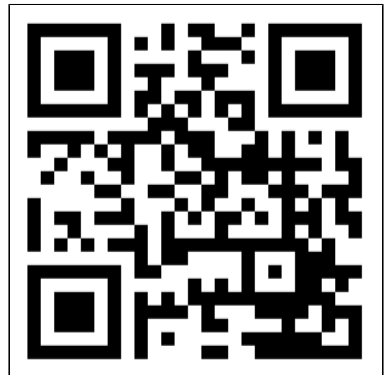

Figure 24.
1. Open the Eurom Smart App manual with the QR code (Figure 24) or go to www.eurom.nl/nl/manuals.